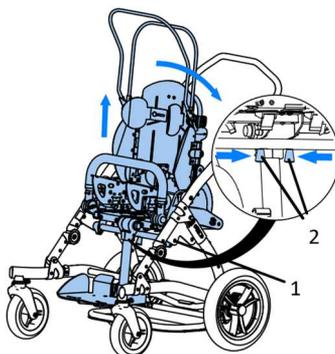

Fig. 4
To remove the pushchair seat from the mobility base, unfasten the seat locks (1) from the sockets in the mobility base by pulling the levers (2) located under the seat towards you, then, tilting the seat towards the back, pull the seat up from the frame. Fig. 4